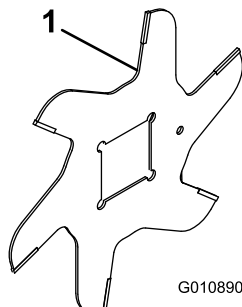

Figure 18
4. Install the next blade clockwise so that the index reference hole (Figure 18) is not aligned with the first blade hole by 1 flat of the shaft.